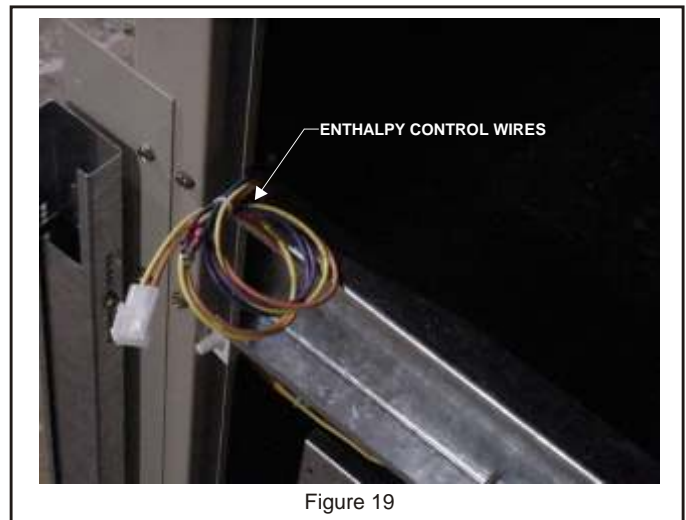

Figure 19
13. If the A7 enthalpy sensor was retained, locate the blue and purple wire harness on the top deck. Remove the intake air access panel and route blue and purple connect P104 to J193. Secure excess wiring. **See Figure 19.**